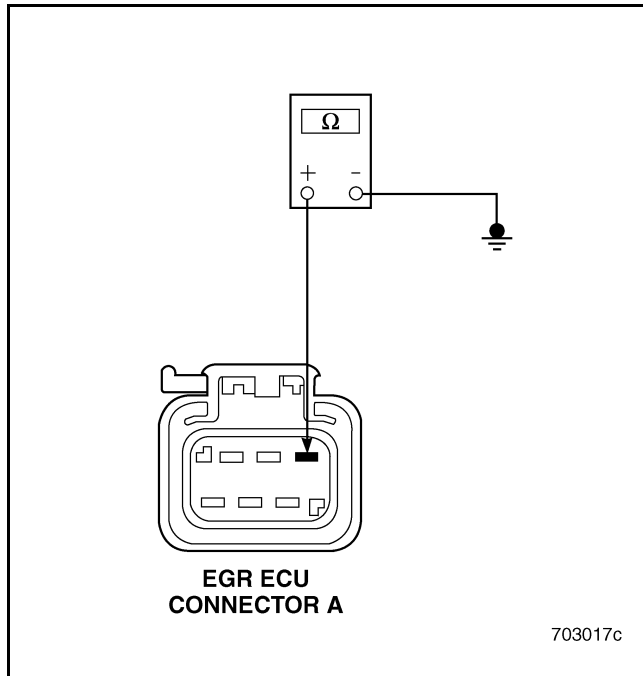

Figure 599
3. Measure the resistance between EGR ECU connector A pin 1 and a known good ground (see Figure 599).